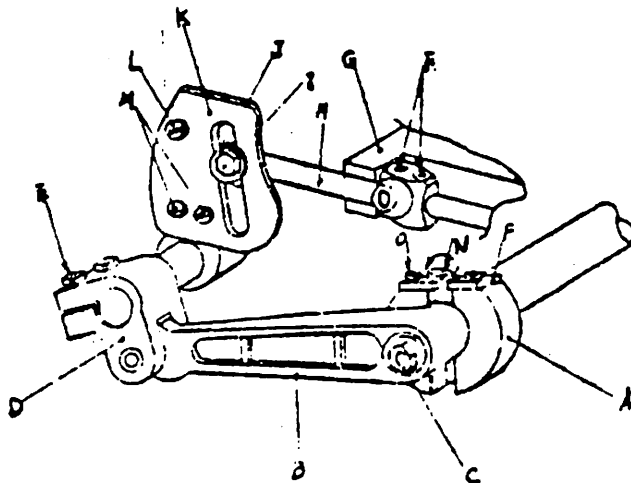

Fig 16
1. For the adjustment of differential feed, loosen the connecting crank nut J in Fig. 16.
3. The adjustment of feeding should be adjusted by operating the feed adjusting nut C in Fig. 16. This nut will be loosened if turning to counterclockwise.
4. Stitch length will be narrower if the feed adjusting screw N in Fig. 16 is turned to clockwise, and it will be larger if turning this screw to counterclockwise.
5. After adjustment is finished, tighten the feed adjusting nut C in Fig. 16.